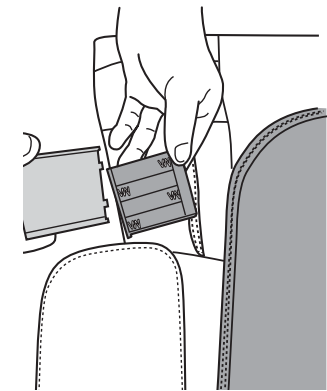

Fig.13
5. Remove the battery compartment cover, then install four AA alkaline batteries (Fig.13).